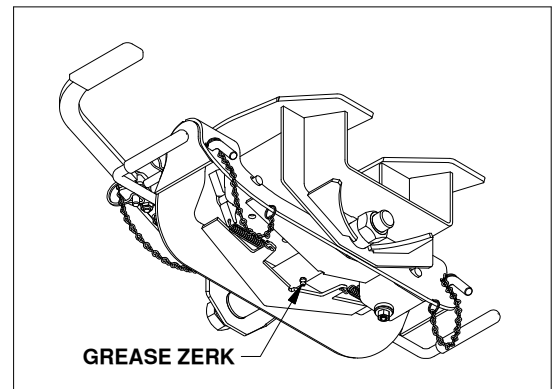

Figure G1: View under coupler.
- Grease the saddle through the grease zerk approximately every six months with multi-purpose grease. This allows the coupler to pivot freely, see Figure G1.